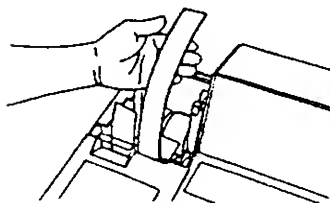

Fig. 9
6. When the paper comes out of the journal outlet for approx 20cm (or 8 inches), release the **[JF]** key (Fig. 9).